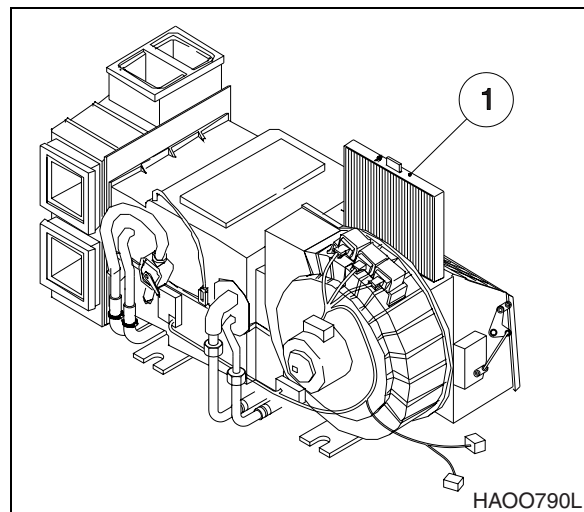

Figure 57
5. Remove filter (1, Figure 57) and inspect for any damage.